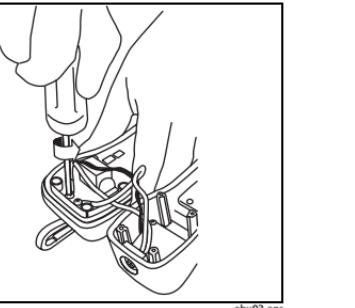

Figure 3. Removing the Line Cord Screws
- Carefully separate top housing from bottom housing and lay side by side (Figure 3).
- Remove the two screws that hold the line cord to PCB (Figure 3) and two washers. Discard the remaining portion of the line cord.